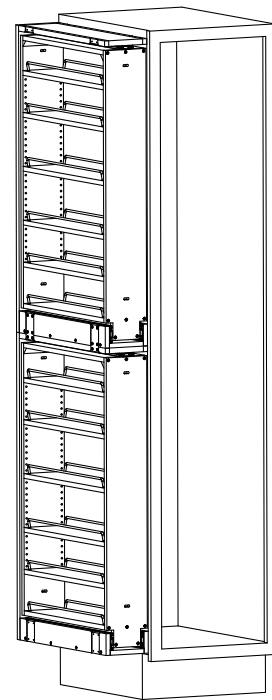

Fig 8
**Step 6.** Mount filler cabinet pull-out to adjacent cabinet 1 through pre-drilled holes from inside of cabinet. (See fig. 8).
**Étape 6.** Monter le module coulissant sur l'armoire adjacente 1. (Voir la figure 8).